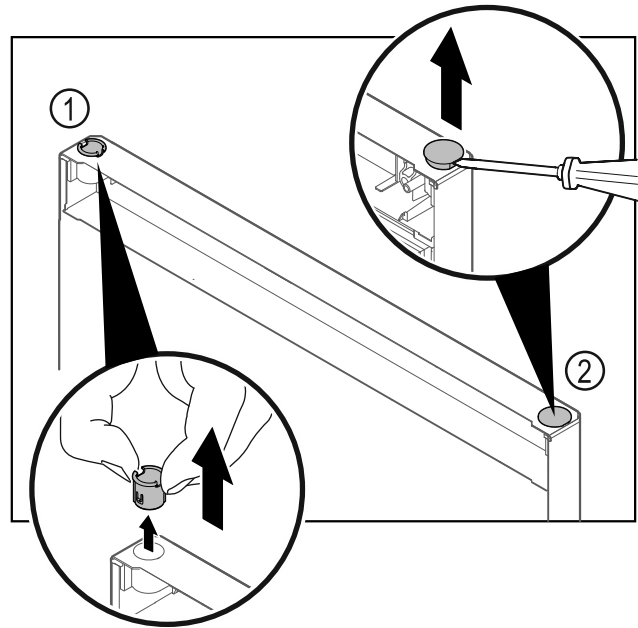

Fig. 42 Freezer compartment door
- ▶ Pull out the hinge bushing Fig. 42 (1) with your fingers.
- ▶ Carefully lift the cover plug Fig. 42 (2) with a slotted screwdriver and pull it out.